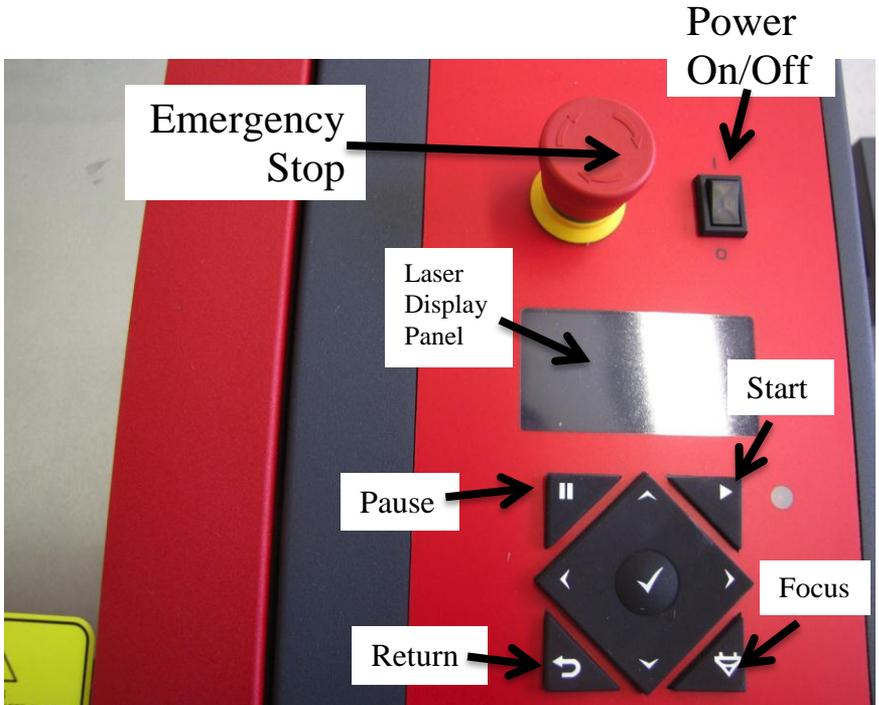
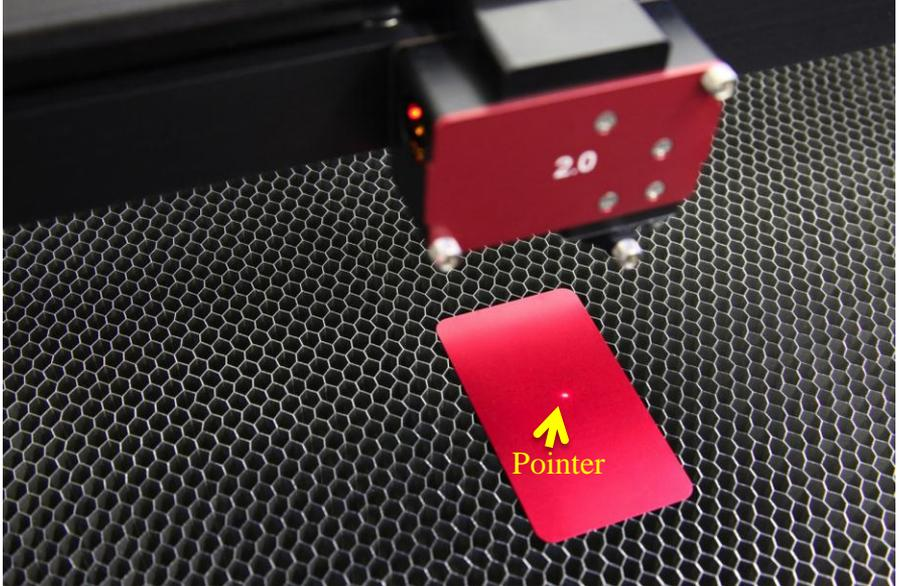

Figure 9: Laser Cutter Switches
Figure 12: Red Pointer during Manual Focus
7. **POWER ON** the laser with the **ON/OFF** switch (Figure 9).
11. **CLICK** once on the lower right hand **FOCUS** icon (Figure 9,11).
13. Place your **MATERIAL** under the focus carriage and notice the **RED POINTER DOT** in Figure 12. You will only be able to see the dot on your material if the machine cover is **OPEN** (Figure 9,10).
14. Place the **MANUAL FOCUS TOOL** on your material. The flat side will rest against the **FOCUS CARRIAGE** (Figure 9).